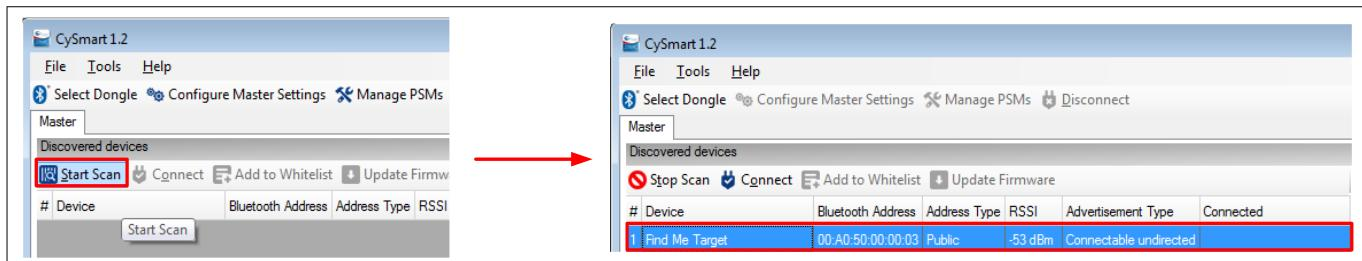

Figure 118 CySmart device discovery
- On the CySmart Host Emulation Tool, click **Start Scan**. Your device name (configured as **Find Me Target**) should appear in the **Discovered devices** list, as shown in Figure 118